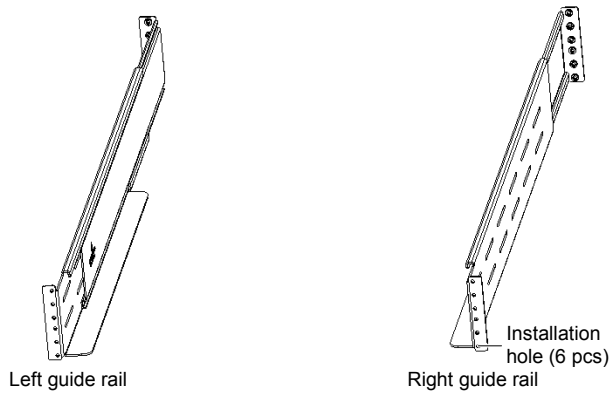

Figure 2-7 Appearance of the guide rail
1) Take out the guide rails (one left guide rail and one right guide rail), guide rail screws and panel screws from the package, distinguish the left guide rail and right guide rail according to Figure 2-7, and confirm its retractable function respectively.
| <ol style="list-style-type: none"> 1. The guide rail holder must be close to the front of the rack. 2. Any end of one guide rail has six installation holes (see Figure 2-7), do not use the two installation holes in the middle when fixing the guide rail. It is recommended to use the top and bottom installation hole (from top to bottom, installation hole 1 and installation hole 6). |